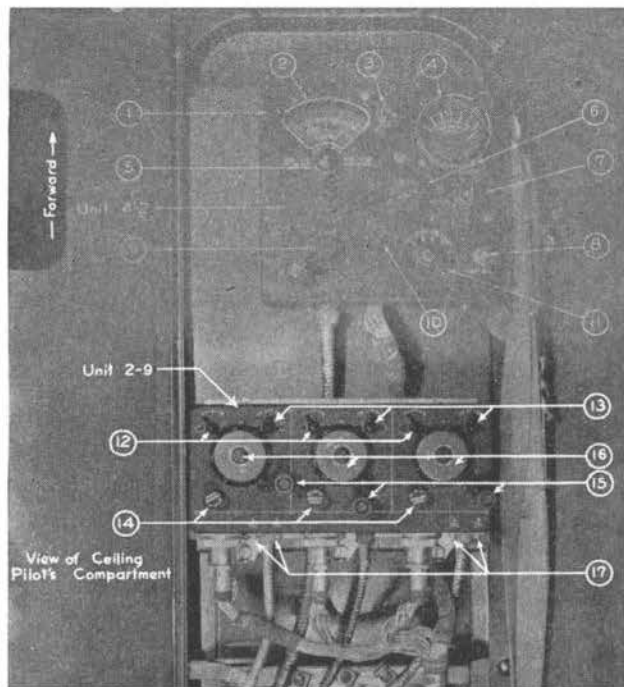

Figure 33. Pilot's Command Receiver Control
- 2-9** One BC-450-A Receiver Control Unit, Figure 33.
The receiver control box (Figure 33), Unit 2-9, is divided into three identical control sections, except for dial calibrations, each connected to its own receiver. Thus, command receivers can be used individually or in any combination desired by the operator. A switch (13) is located in the upper right corner of each control section and has "CW," "MCW," and "OFF" positions. Two phone jacks marked "A-Tel," and "B-Tel" (17) are located on the aft side of the receiver control box through which receiver output and command transmitter side tone may be heard. These jacks are not normally used since the Command set is connected to the